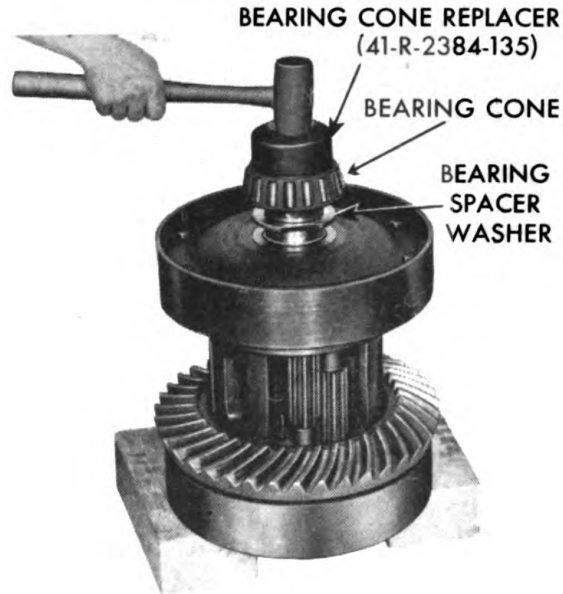

Figure 102 — Installing Differential Bearing Cone
- i. **Install Roller Bearing Cone and Bearing Spacer Washer.** Slide spacer washer onto compensating cover hub. Using differential case bearing cone replacer (41-R-2384-135), drive bearing tight against washer (fig. 102).